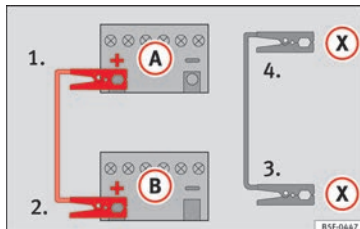

Fig. 90 Diagram of connections for vehicles with Start-Stop system.
- 4b. *For vehicles with Start-Stop system:* connect one end of the *black* jump lead **(X)** to a suitable ground terminal, to a solid piece of metal in the engine block, or to the engine block itself » **Fig. 90**.